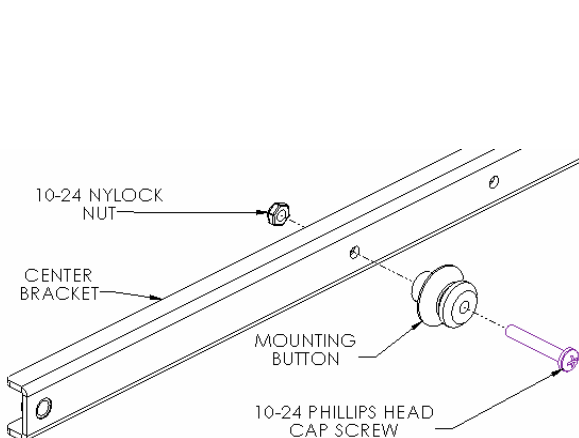
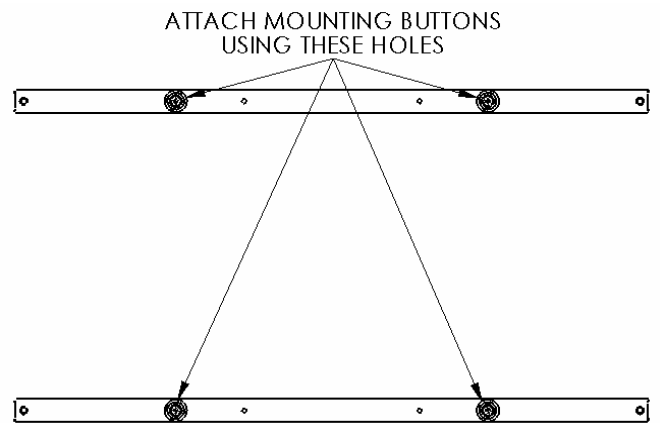

Figure 2
Figure 3
1. Using a 10-24 phillips head cap screw and nylock nut, secure mounting button to center bracket (four places) (see Figure 2 & Figure 3).